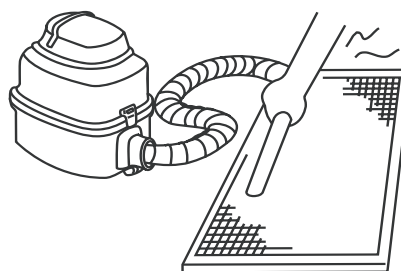

Fig. 4-8
- ⑥ The air-in side should face up when using vacuum cleaner. (See Fig. 4-8)